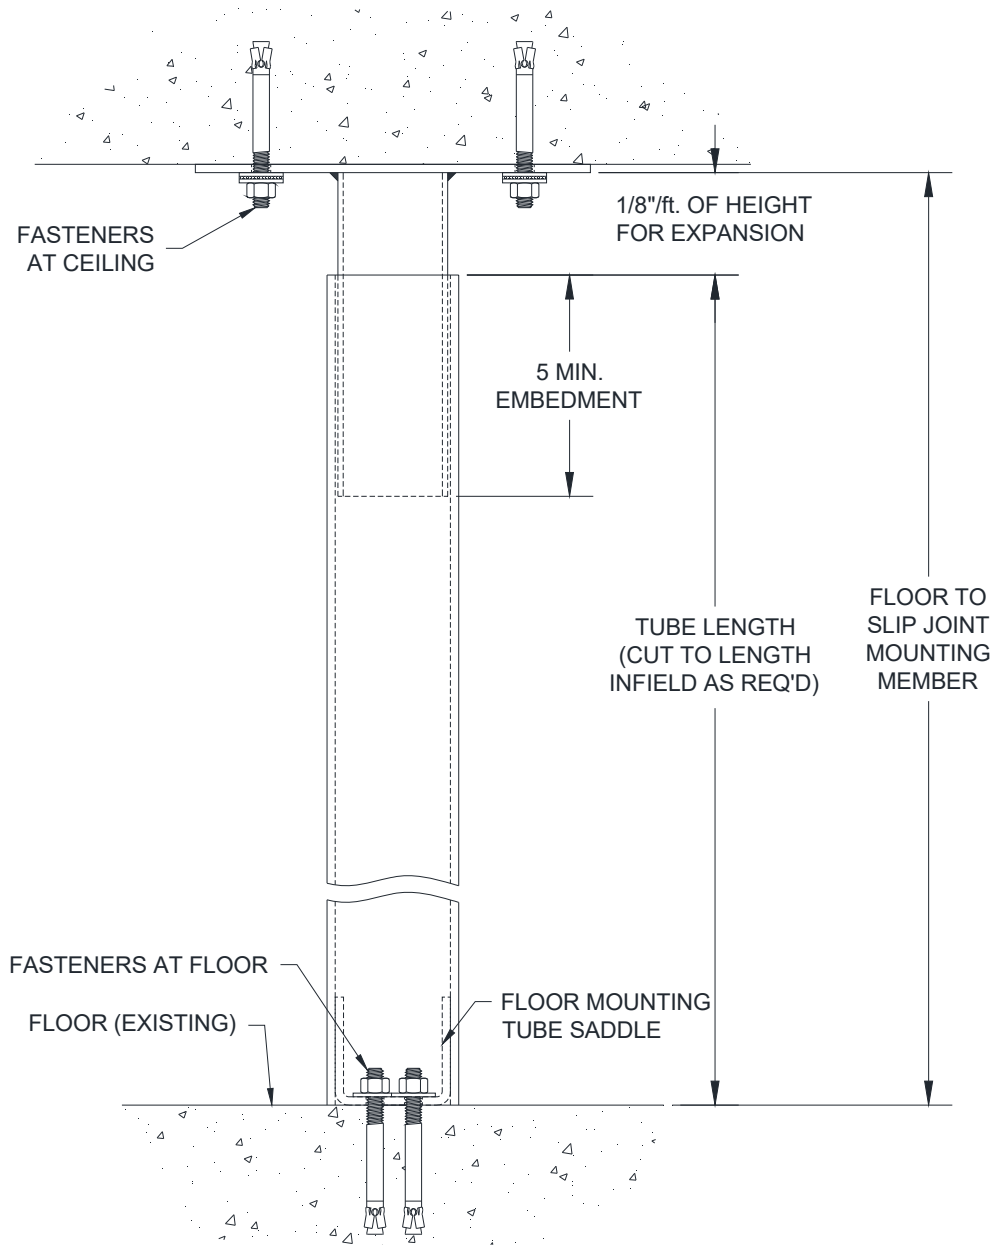

Figure 5.8 – Slip Joint - Between Floor and Ceiling Mounting Assembly
9. Use the job information and the marks made in the previous steps to determine the correct Slip Joint Mounting Member location. Install using the provided hardware. Use only enough fasteners to hold the Mounting Members securely in place (2), as they will be removed in a later step.
10. Determine the required tube length. Refer to **Figure 5.8**.